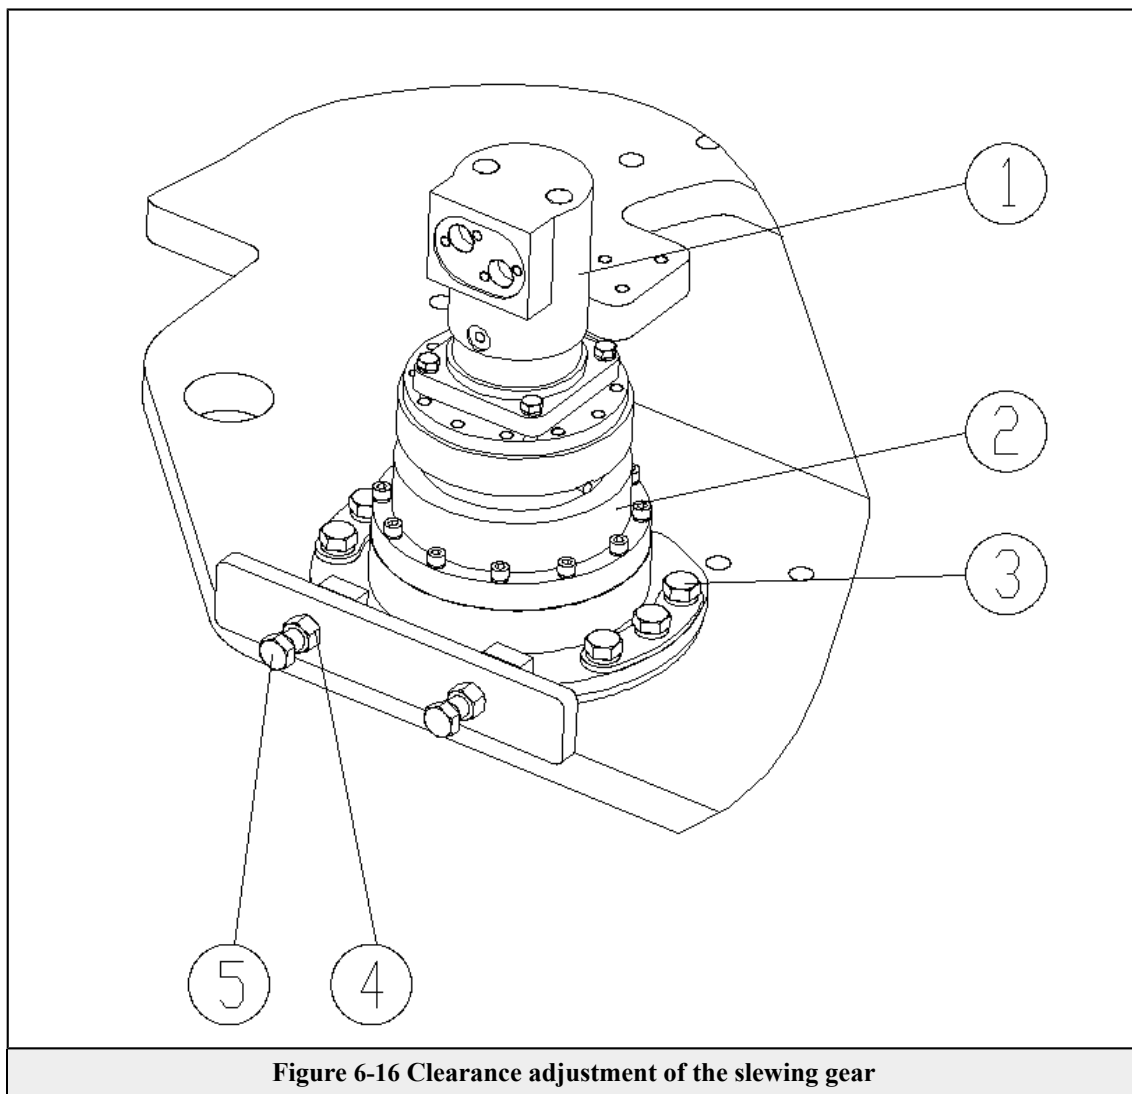

Figure 6-16 Clearance adjustment of the slewing gear
- 1) Rotate the reducer till the "Oil level" horizontal plug is in a horizontal state, as A shown in Figure 6-16.